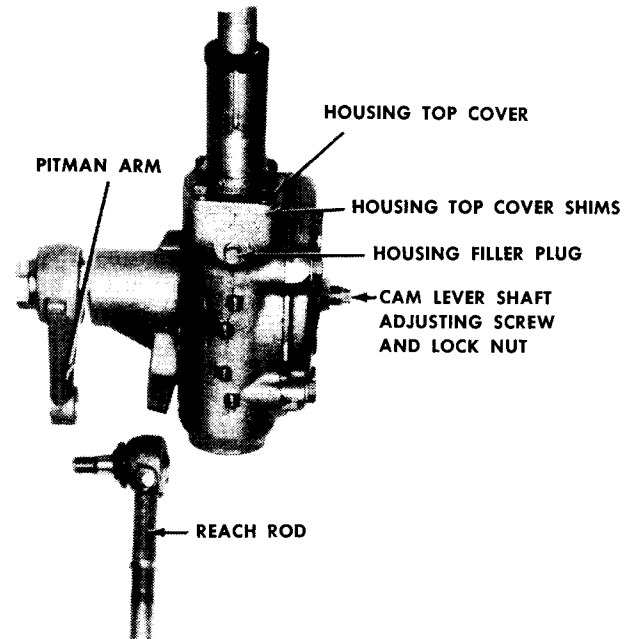

FIG. 8
Two adjustments are provided for the steering gear: (1) steering post end play and (2) cam gear-to-cam lever shaft stud clearance. See Fig. 8.